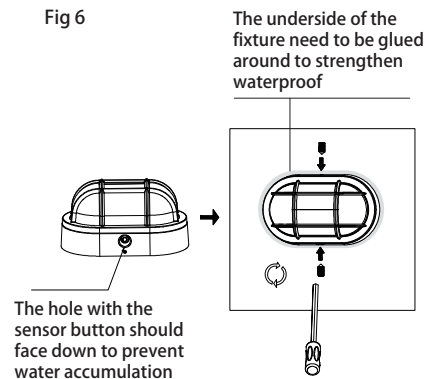

Fig 6
6. Use the hex tool with a torque of 6Nm to lock two M6 set screws. (Fig 6)